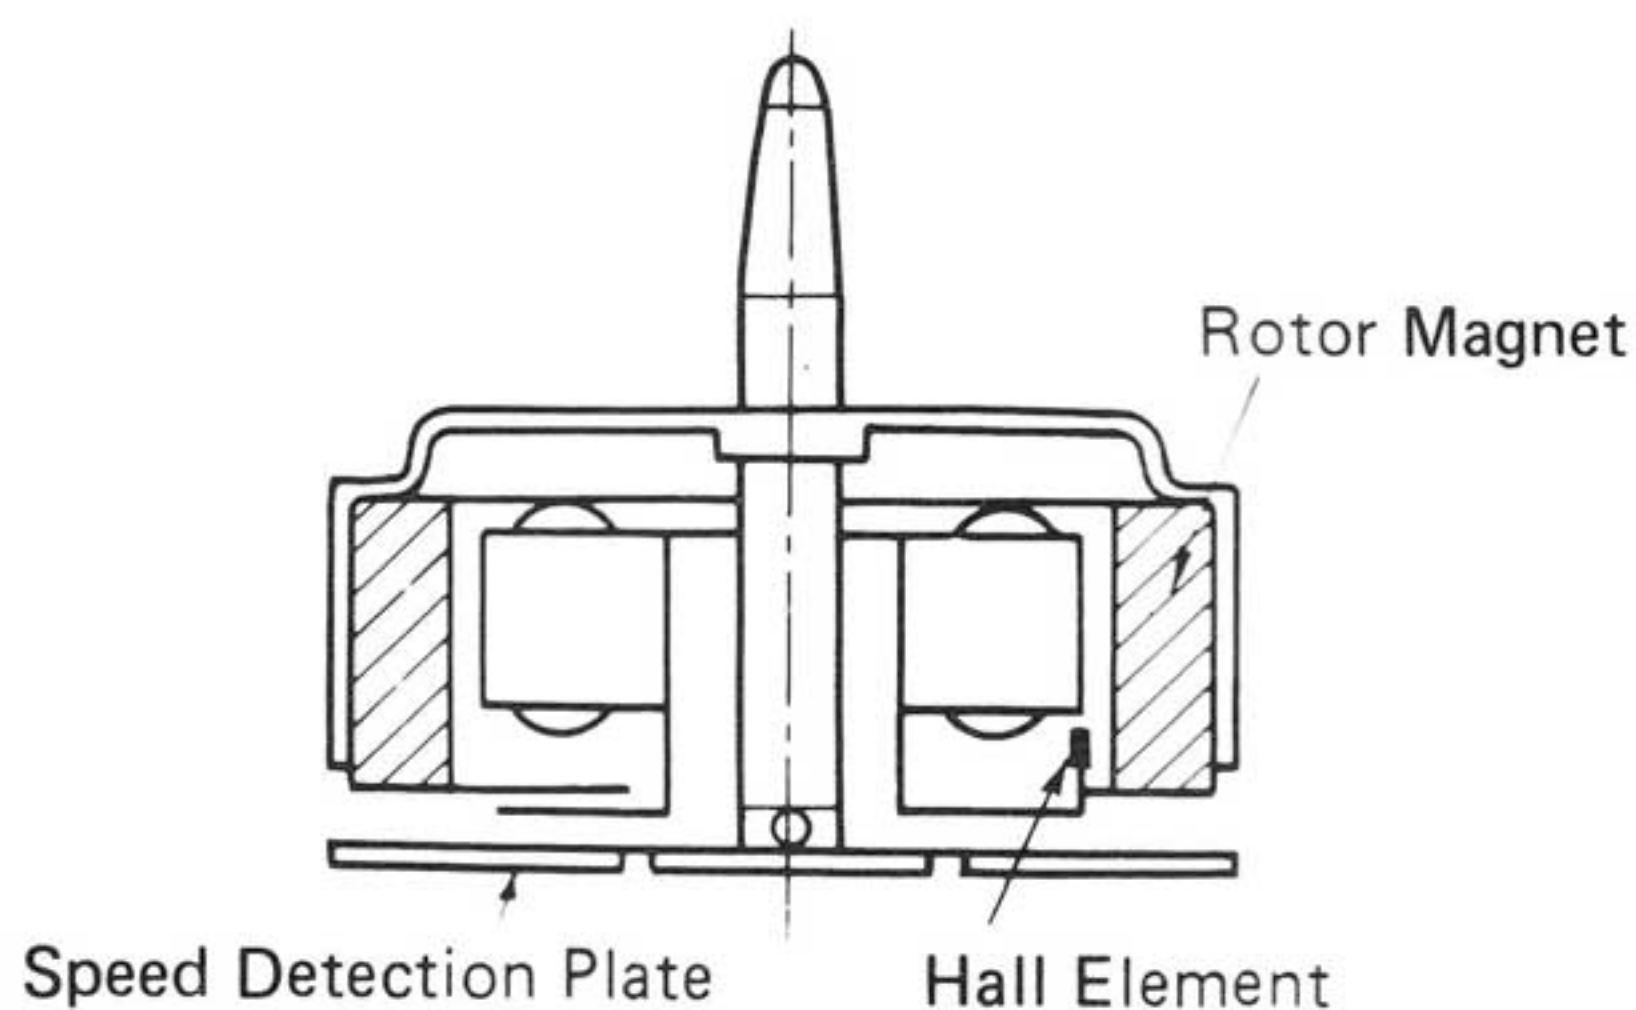

Fig. 12
- 5. This Reverse Rotation Prevention circuit consists of two flip-flops and AND gates See Fig. 12.